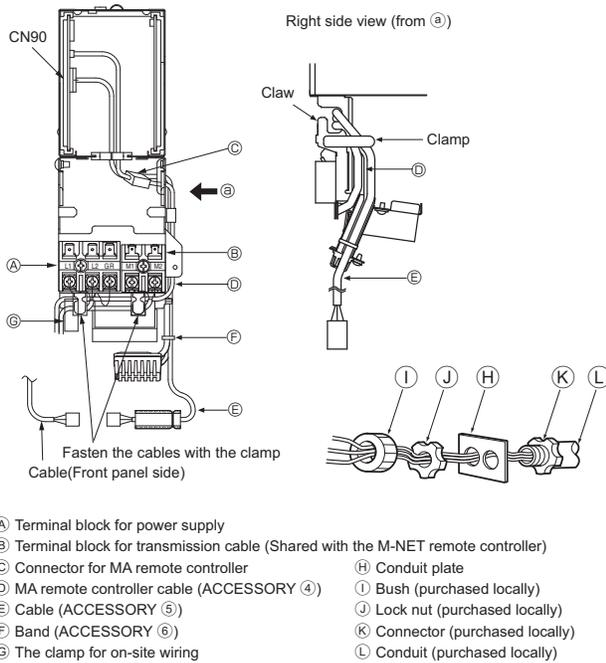

Fig. 5-1
5.1. Indoor unit (Fig. 5-1, 5-2)